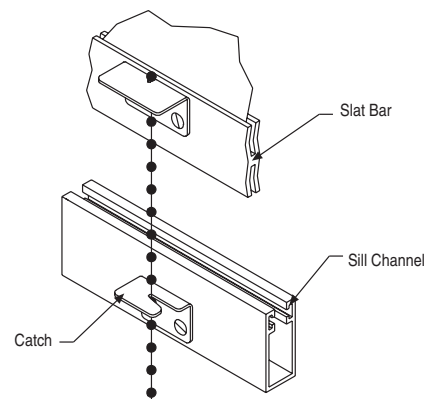

Figure 16
- ⑮ Check shade operation.
- ⑯ For spring roller operation, attach bead chain to slat bar and catch to sill channel. To operate shade, pull down, locking in place using the bead chain (see Fig. 16).